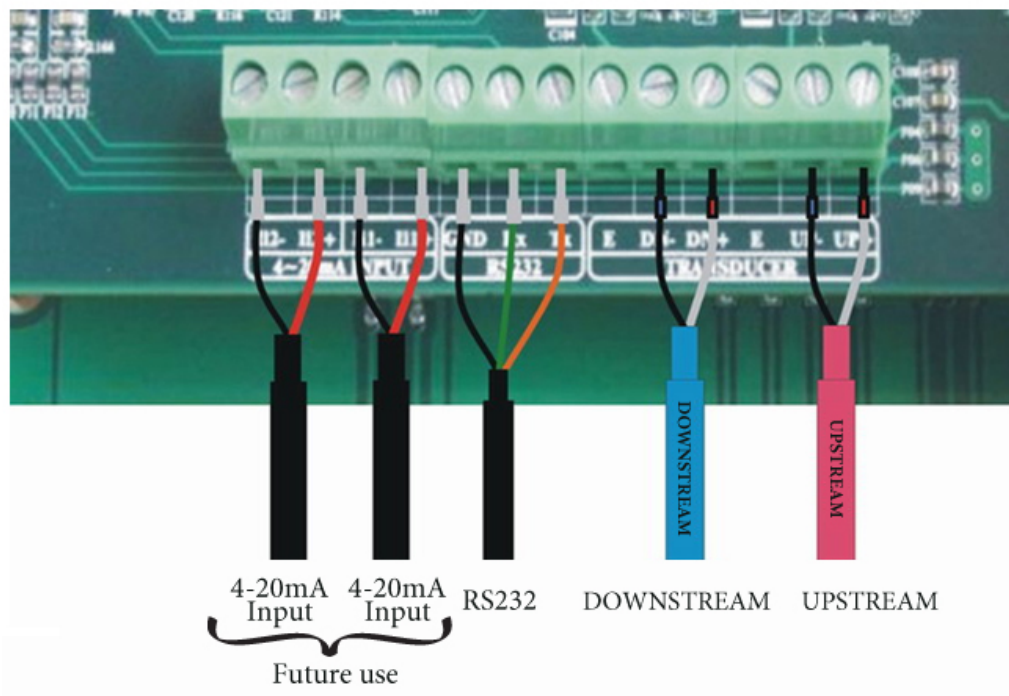

Fig.2.2-2
Step 1: Connecting The Main Board (Fig.2.2-2)